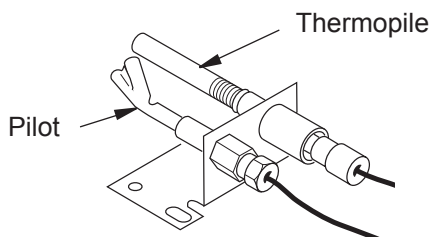

Figure 12 - Thermopile and Pilot
6. With control knob pressed in, use a match or grill lighter to light pilot. Visually locate the pilot (see *Figure 12*) on the edge of the burner pan to look for flame. If needed, repeat operation until the pilot lights.